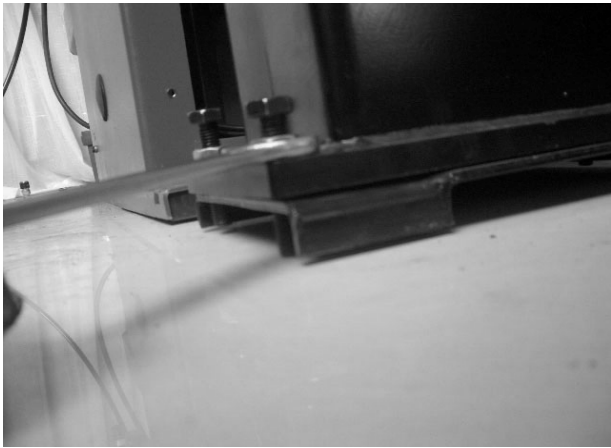

FIG 38
6.1.10 Loose the nut below the base and turn the screw clockwise until it against the ground and tight (fig38) and install The side panel and tool box removed in the